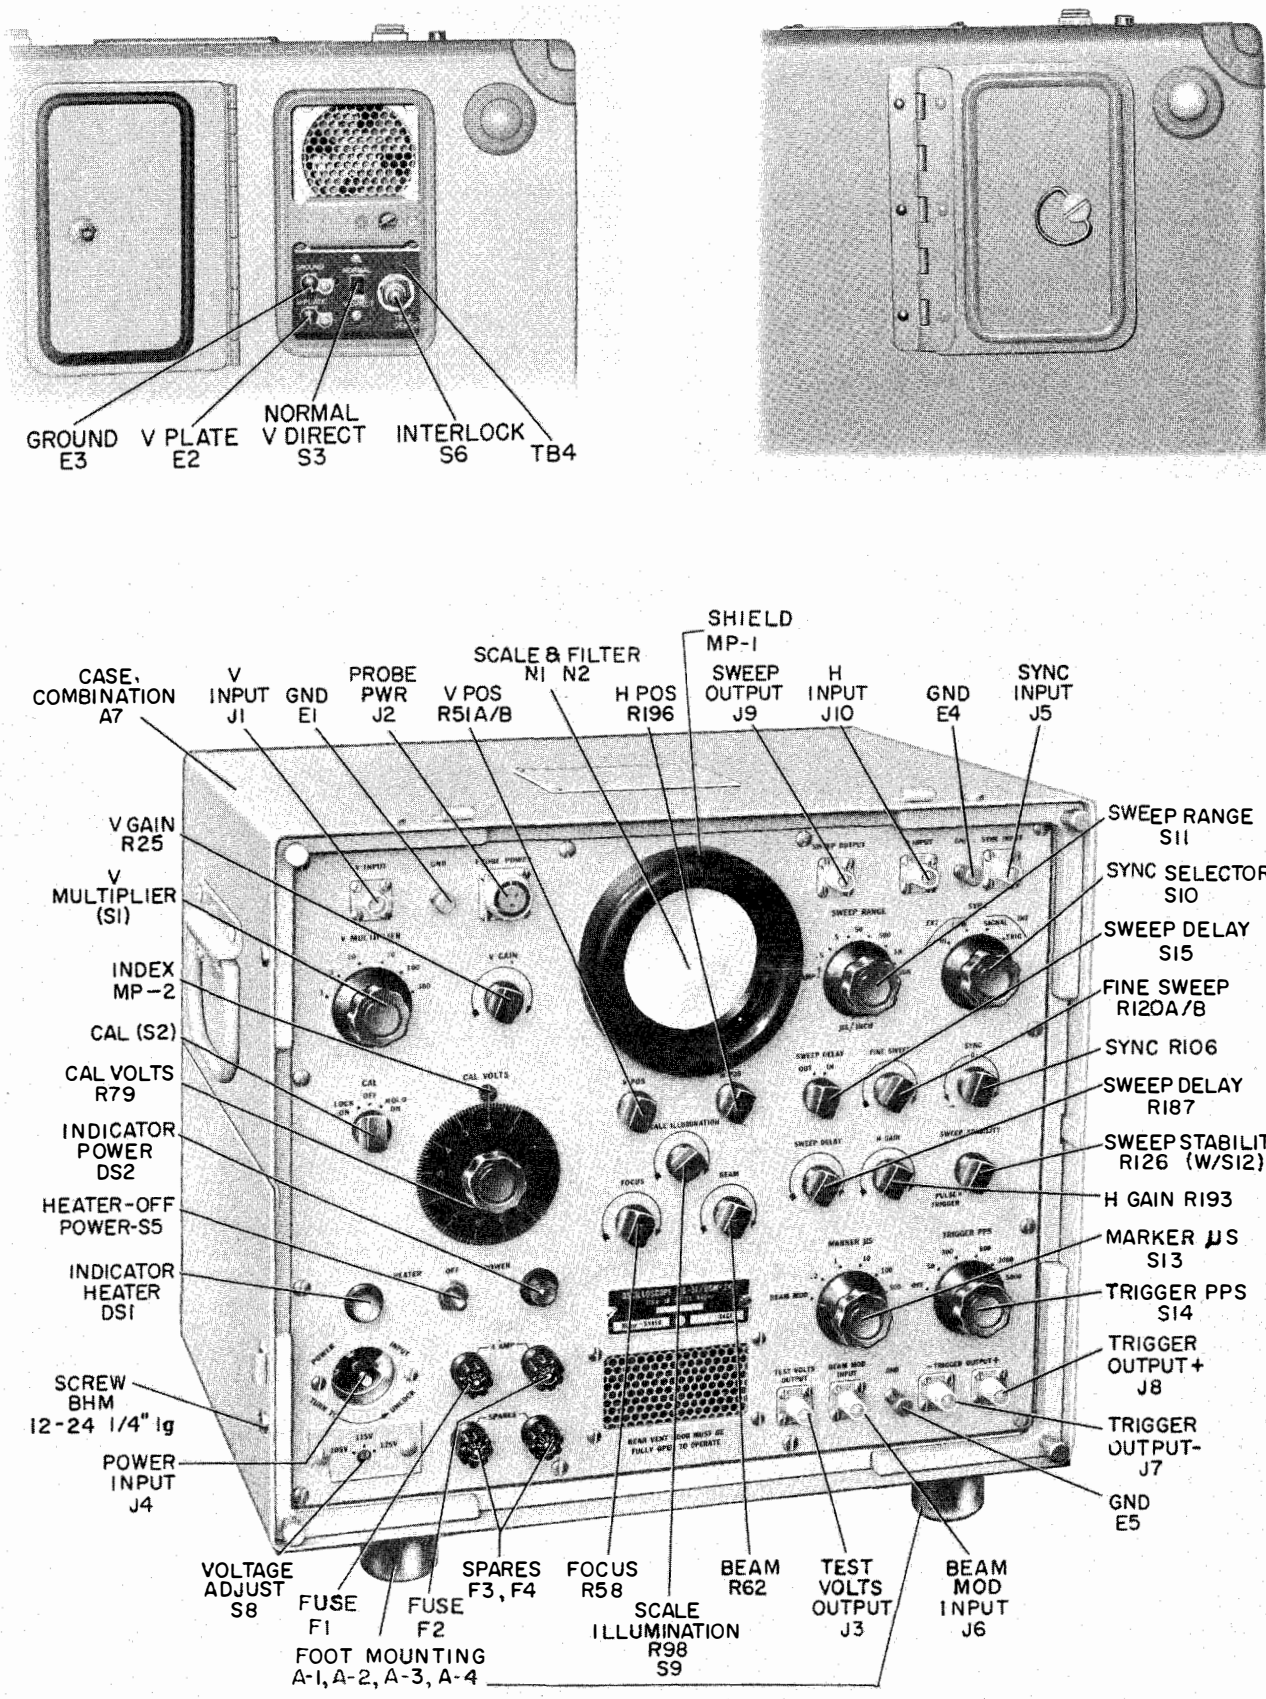

Figure 4-1. Front and Rear View of Oscilloscope OS-51/USM-24C Showing Controls and Connectors
b. Two interlocks are provided for equipment and personnel safety. S6, figure 4-1 and 7-21 is a normally closed spring-return switch that is actuated by the rear ventilation door to open the contacts when the door is closed. Thus, it prevents line voltage from being applied unless the ventilation door is open. S7, figure 7-21 and 7-28 is a safety interlock, normally open contact switch that is held in the closed position as shown, by the case of the oscilloscope. It prevents line voltage from being applied in order that no hazardous voltages will exist when the oscilloscope OS-51/USM-24C is removed from its combination case.
i. S8, figure 4-1 and 7-19 is a three position screw-driver slotted switch. It is provided so that the oscilloscope can be used under normal, high or low line voltage conditions. It is on the front panel under a transparent cover, which is interlocked with the power connector plug to prevent switching while the power is ON.
j. S5, figure 4-1 is a three position toggle switch. In center position, power is "OFF"; switched to the right side, power is "ON" for the oscilloscope; and to the left side, energizes a heater HR1, for use when the oscilloscope is not being used and humidity conditions are high.
b. Check the voltage of the A.C. power line to determine the appropriate setting for switch S8 (figure 4-1). This control is located on the front panel, below the power connector and has a screw driver slotted shaft. It is normally shipped from the factory, set at the 115V position for operation in the range of 110 to 120 volts. For sustained operations at lower or higher voltages, reset the switch to the appropriate position as given in table 5-1.
d. Open the rear ventilation door. When the power toggle switch (S5) figure 4-1, is thrown to the left, the white indicator lamp will light, indicating that the power is available to the oscilloscope and that the internal space heater is on. When the toggle switch is thrown to the right, the red indicator lamp will light, indicating that the oscilloscope power supply is on.
All operating controls of this oscilloscope and means for making external connections are located on its front panel and rear of combination case, as shown in figure 4-1. The function of each control and connector